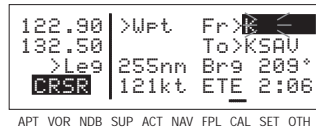

Figure 4-36
4. Turn the right outer knob one click clockwise to move the cursor to the second character position (figure 4-36).